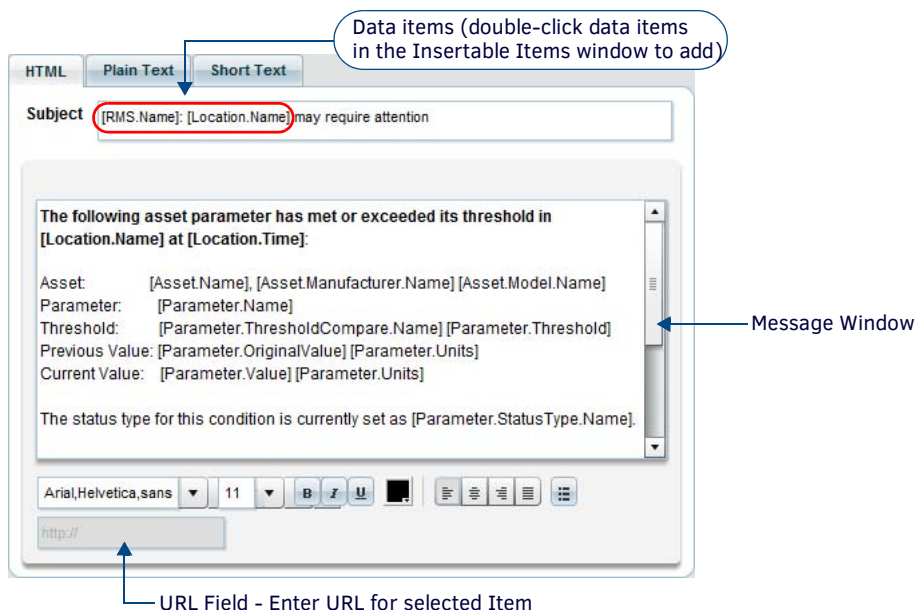

FIG. 387 Modify Template Settings dialog - Message Window (HTML)
- If *HTML* is selected, a set of text formatting tools as well as a URL field is provided (FIG. 387):